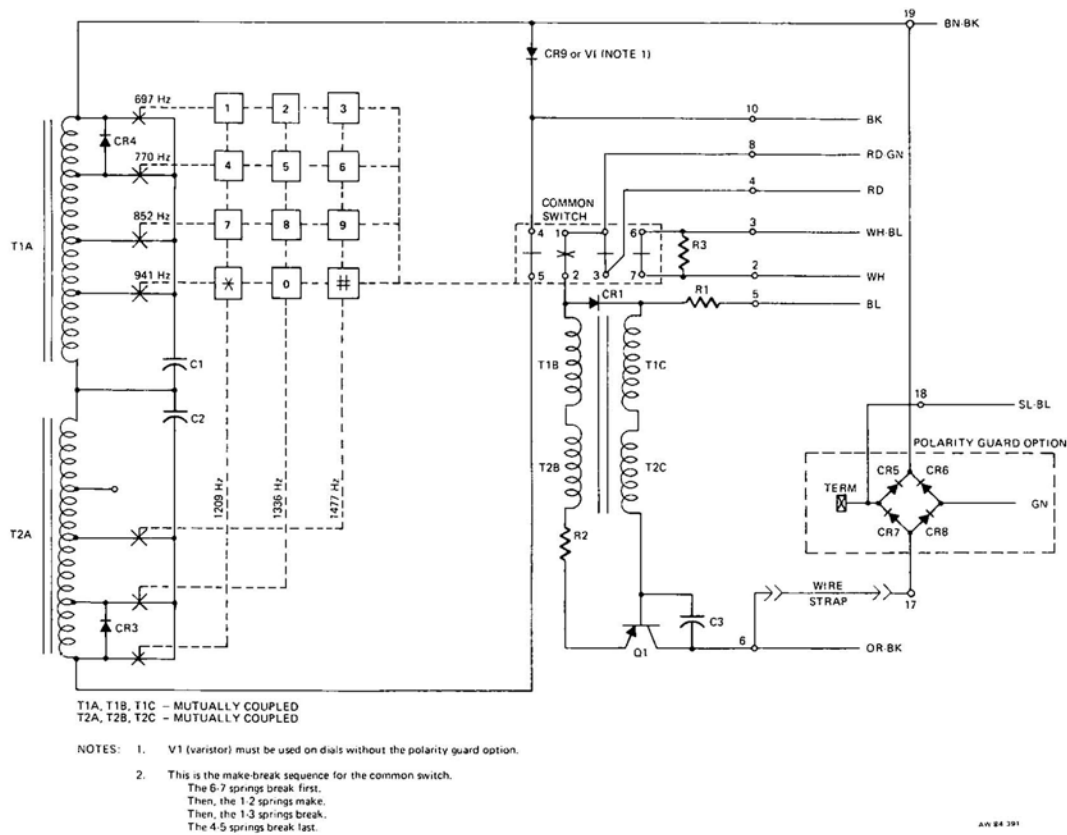

Figure 3: Model 32 Pushbutton Dial, Schematic
2.06 Pressing a pushbutton rotates one of the horizontal (row) cranks and one of the vertical (column) cranks. The vertical cranks operate contact springs connected to the high-band coil, and the horizontal cranks operate contact springs connected to the low-band coil. (See Figures 3 and 4.) The horizontal cranks also move the actuator slide that operates the common switch. When a pushbutton is pressed, a single high-band tone and a single low-band tone are simultaneously transmitted through the common switch and polarity guard circuit (Models OPG and OPD).